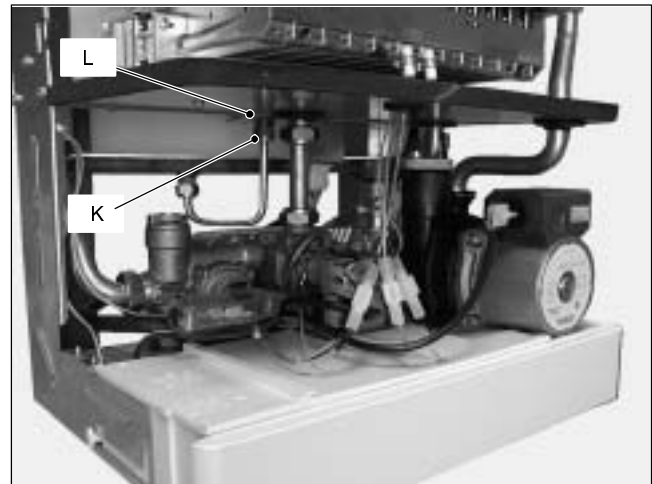

Fig. 55
- 2 Completely unscrew the connection K, the lock nut L (Fig. 55) and remove the expansion vessel from the top of the boiler.